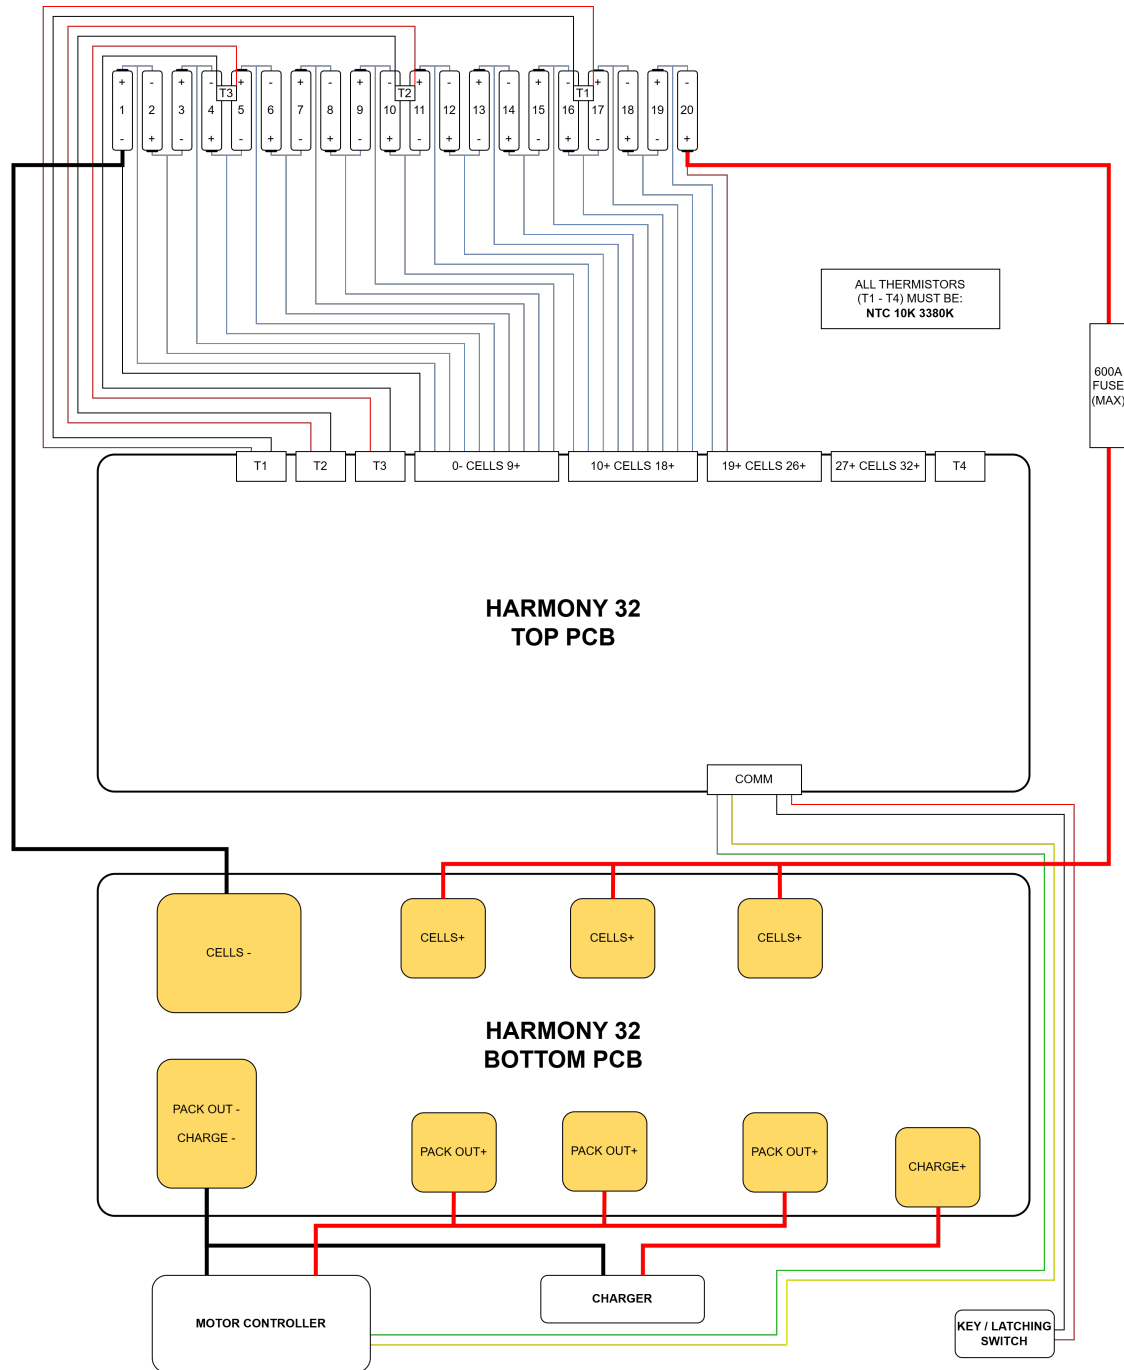

Figure 5: 20s Wiring Diagram
- If the number of cells is between 20 and 21, please refer to Figure 5.